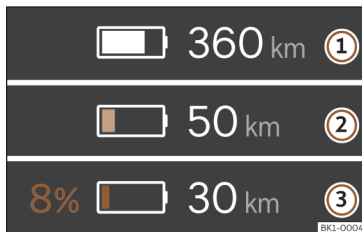

Fig. 3 On the digital instrument cluster: range and reserve indication.
The current state of charge of the high-voltage battery is indicated by the  symbol on the digital instrument cluster»» **Fig. 3 ①**. The battery symbol will be more or less full depending on the state of charge of the battery.
The vehicle range is displayed in kilometres (km) or miles (mi) depending on the selected setting»» **Fig. 3 ②**
- ① Battery state of charge and range
- ② Reserve indication (warning level 1) and range
- ③ Reserve indication (warning level 2) and range
When the red zone of the high voltage battery reserve is reached, the  symbol is displayed together with a percentage value in colour»» **Fig. 3 ③**.